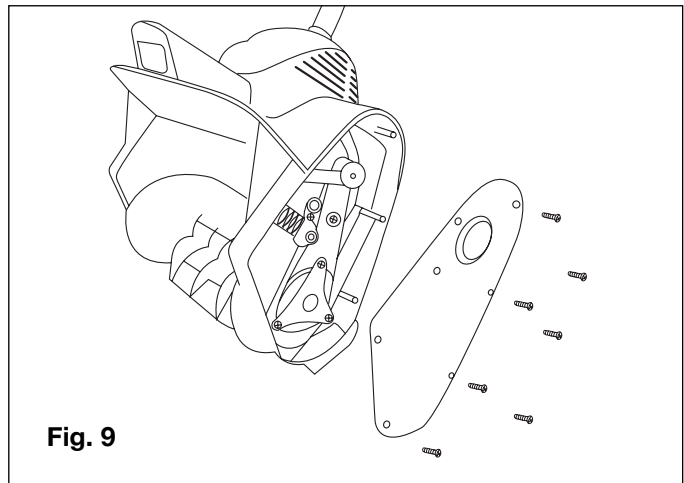

Fig. 9
2. Using a Phillips head screwdriver, disassemble the left side cover by removing the seven (7) screws (Fig. 9).
1. Disassemble the left side cover by removing the seven (7) screws (Fig. 9).